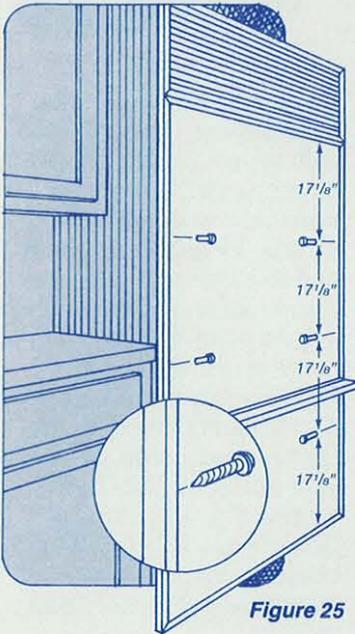

Figure 25
Instructions for fastening Models 501R, 501F, 550, 511, 561, 532, 542 and 590 to cabinetry (see Figure 25):
- 1) Drill three (3) $\frac{3}{16}$ " holes (per specs in Figure 25) through both outer trims.
- 3) Install all six (6) Sems.